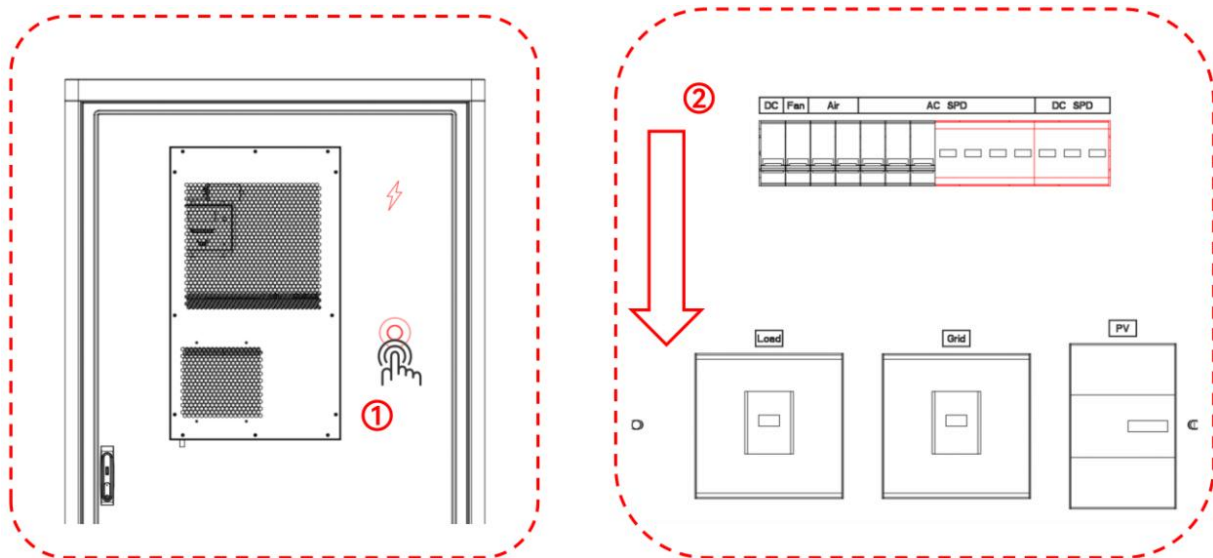

Figure4.6 Emergency stop shutdown
Step 2: Refer to Figure 4.6 to disconnect all auxiliary power switches of the system AC/DC plastic shell switch Battery DC load switch;